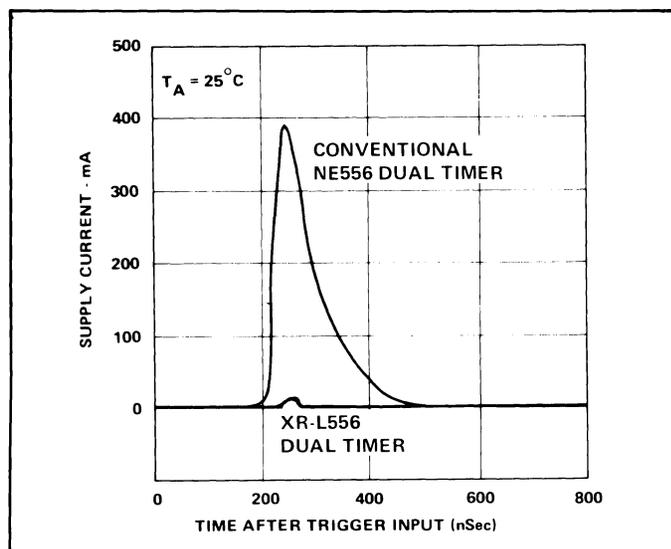

Figure 12. Comparison of Supply Current Transient of Conventional NE556 Dual Timer with XR-L556 Micropower Dual Timer
**No Supply Current Transients:** The conventional 556-timer can produce 300 to 400 mA of supply current spikes during switching of either one of its timer sections. The XR-L556 is virtually transient-free as shown in Figure 12.